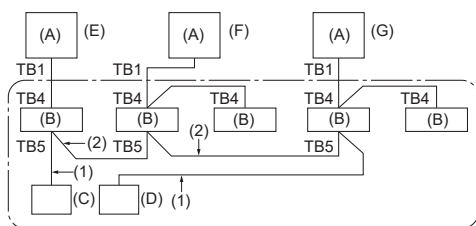

Fig. 9-1
9. System control (Fig. 9-1)
- (E) SW 1 - 3 ~ 6